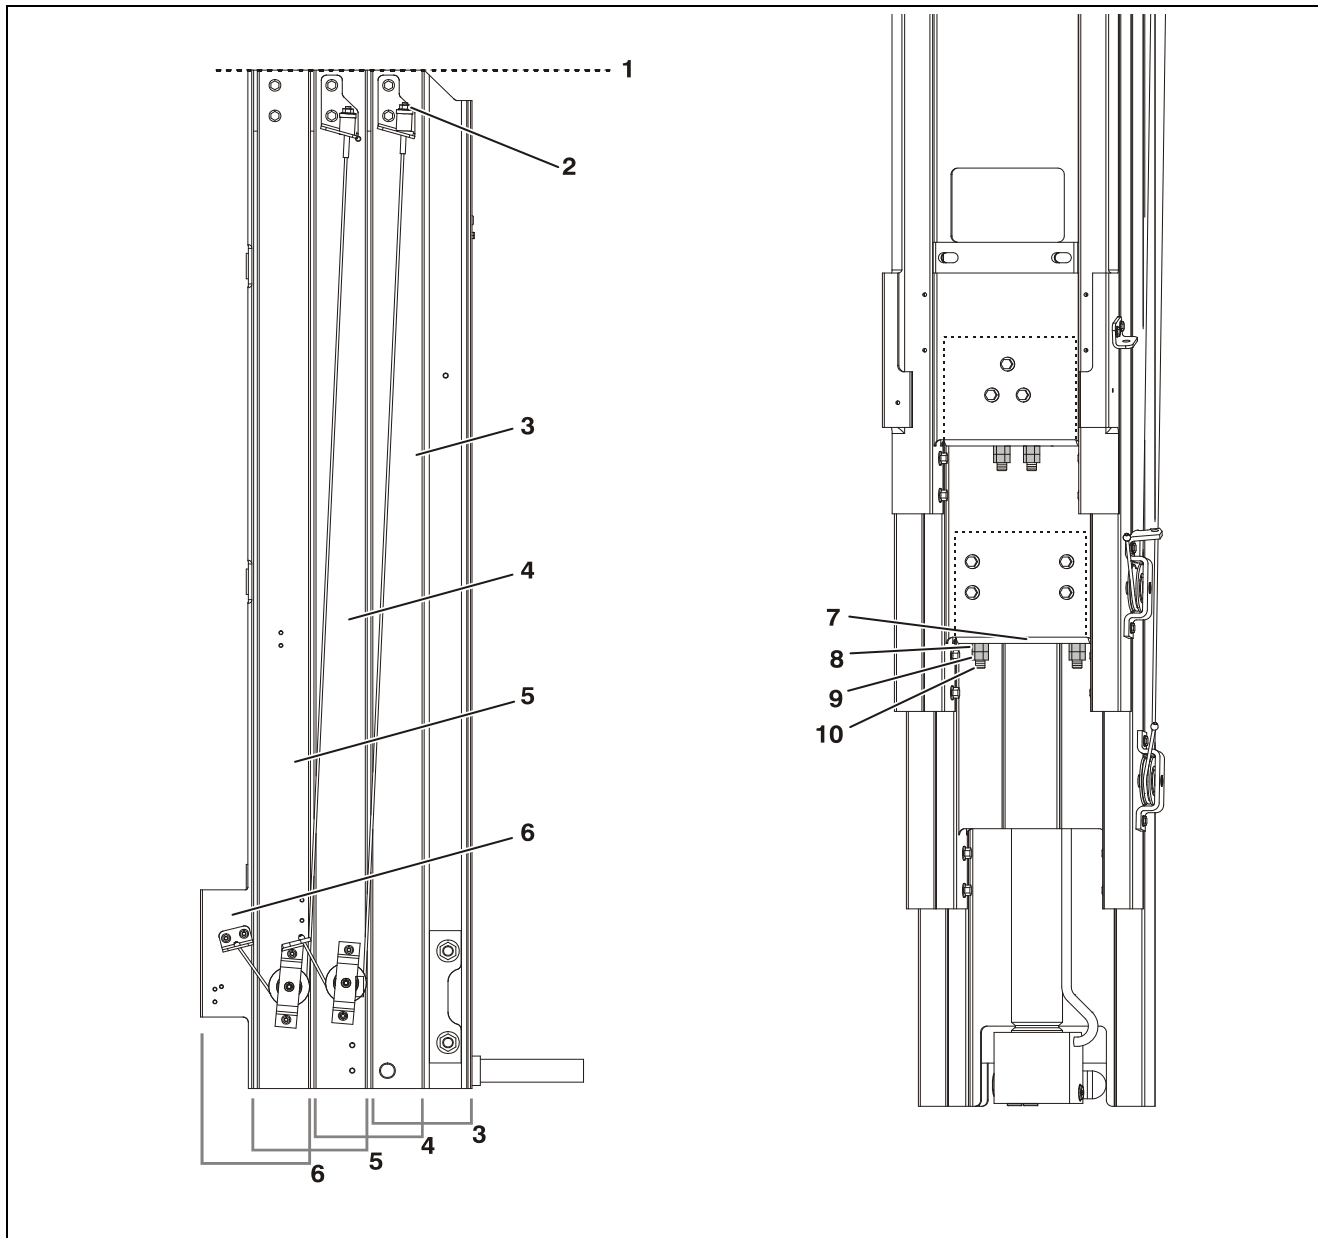

Figure 5-8. Mast Chain and Sequence Cable Adjustment Components.
(See Figure 5-8.)
3. Then with no load in the platform check the side profile of the top of the mast, the mast sections should all be even at the top and not stepped. (See Figure 5-8.)
7. **Tighten** (*to raise mast section*), **or loosen** (*to lower mast section*) **the adjusting nut** against the anchor plate on each chain. Adjust the nut the amount required to raise or lower the top of the mast section to match the side profile shown in Figure 5-8. when the mast is retracted.
8. Retract the mast all the way and check if the top of the mast sections appear as shown in Figure 5-8.
9. Repeat steps (1) through (7) for remaining mast sections.